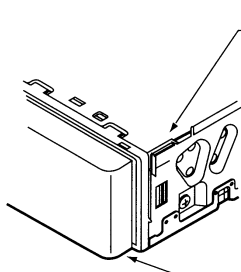

Figure 5/Figure 5/Figura 5
1. Bend the stopper from the source unit. (Figure 5, 6)